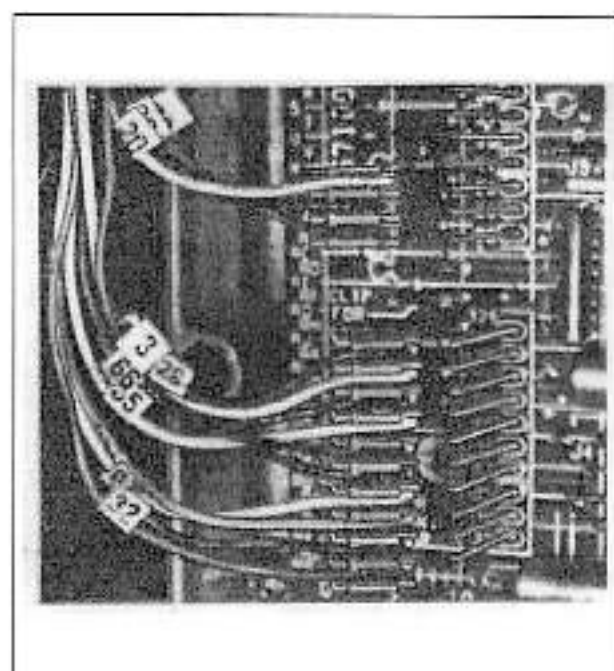
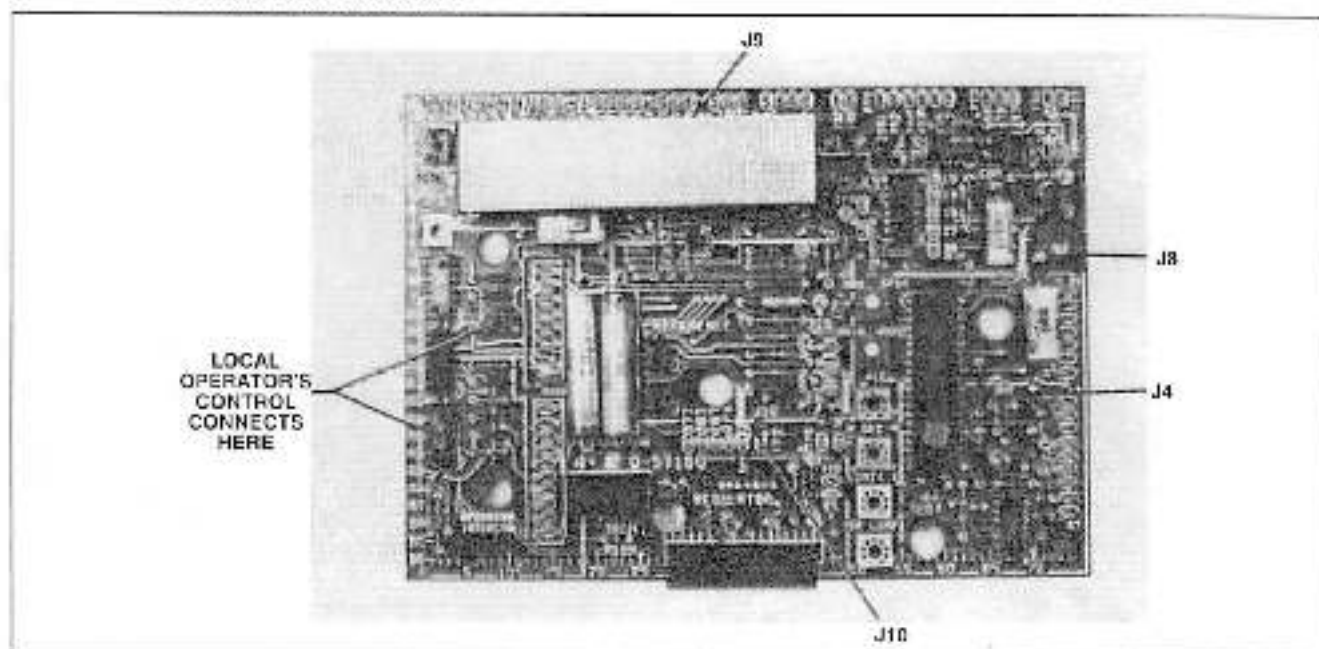

Figure 6 – Local Faceplate Connectors
Figure 7 – Three Phase MinPak Plus Regulator Board Jumper Location
If a Local Operator Station contains an AUTO/MANUAL switch, it is necessary to remove jumper J4 from the Regulator Module. (Refer to Figure 7).
8. Locate the area on the Regulator Module where the 2 connectors will connect. (Refer to Figure 6 and Figure 7). Note there are 2 sets of pins. Mate the connector with the red wire in the end position connecting to the pin marked 32 (RED).